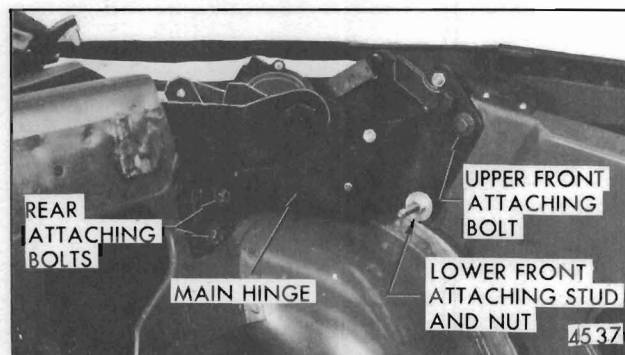

Fig. 30-Inward Folding Top Main Hinge Attachment
3. Remove main hinge upper front attaching bolt (Fig. 30).
6. Tighten main hinge attaching bolts in following sequence: (Fig. 30)